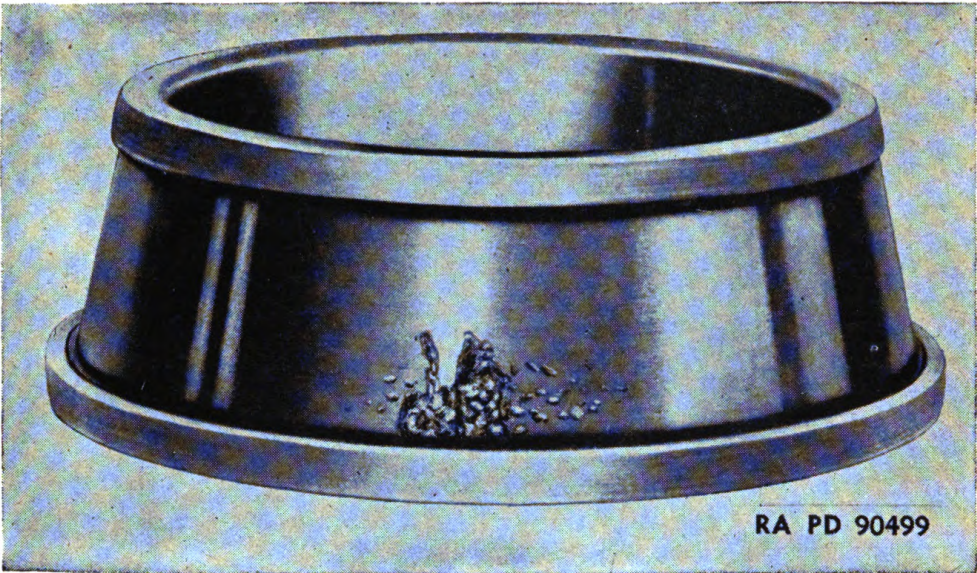

Figure 45. Pitting.
(10) Pitting (fig. 45) eventually occurs in a bearing which has operated beyond its expected life, but it is hastened by nicking, scoring, brinelling, and the operation of bearings with excessive loads and speeds.
(11) Indenting results from the presence of foreign particles such as dirt, chips, or carbonized lubricants. These substances become wedged between rollers and rings and are pressed into the surface. Early pitting usually follows. Indenting of one part of a bearing may indicate pitting on another part. Extreme cleanliness is the best precaution against indenting.